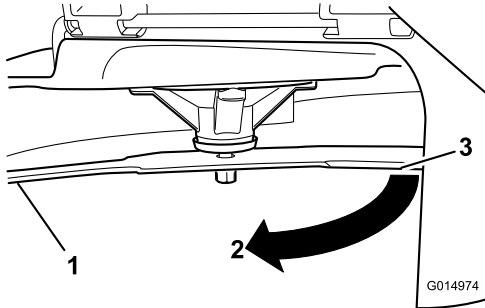

**Figure 63**
5. Measure from the tip of the blade to the flat surface (Figure 63).